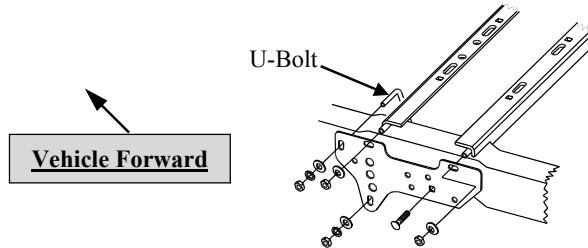

Figure 4
- Use the supplied U-Bolt for the forward attachment of the bracket to the frame (see Figure 4). Position the U-Bolt from the inside of the vehicle frame pointing towards the hitch side bracket. On the passenger's side of the vehicle, the U-Bolt must be positioned to the vehicle forward side of the shock mount and installed on an angle through the mounting slots on the hitch side bracket.